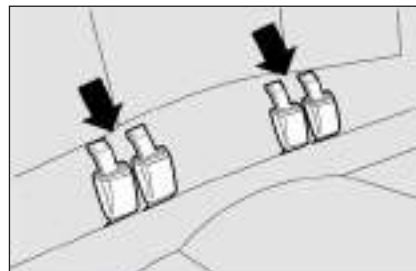

fig. 120
- fasten the seat buckles to the tabs on the seat back **fig. 120** (as shown by arrows);